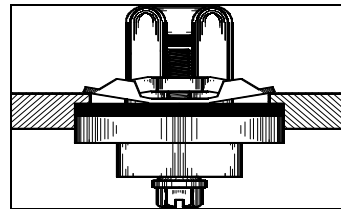

Figure 3 – Heater Tightened In Block
7. Tighten the locking screw clockwise to a **maximum torque of 2.26-2.82 Nm (20-25 in. - lbs.).** (Fig.3)